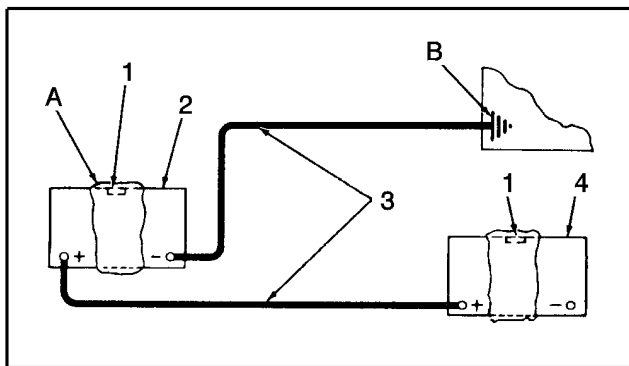

Figure 10 Proper Jumper Cable Connections
3. Place a damp cloth over the vents of each battery. Make certain the cloth is clear of fan blades, belts and other moving parts (Figure 10).
4. Attach one end of the jumper cable to the positive (+) terminal of the booster battery and the other end of same cable to positive (+) terminal of discharged battery (Figure 10).
5. Attach one end of the remaining jumper cable to the negative terminal of the booster battery and the other end to a ground at least 12 inches (304 mm) from the battery of the vehicle being started (Figure 10). (DO NOT connect directly to the negative post of the dead battery.) The ground connection must provide good electrical conductivity and current carrying capacity.